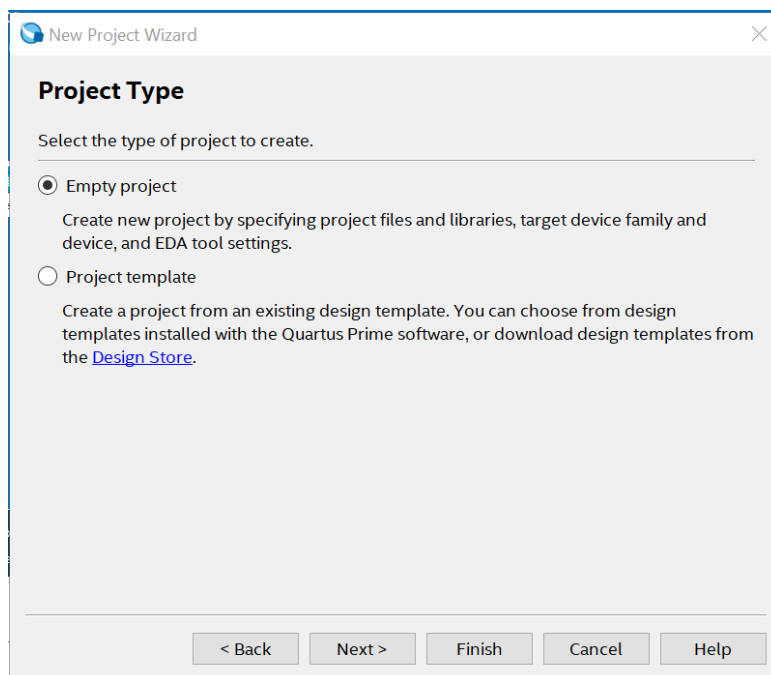

Figure 3. Choose the Project Type
- Figure 3 shows the next window, where the **Project Type** is selected. Select **Empty Project** and click **Next**.